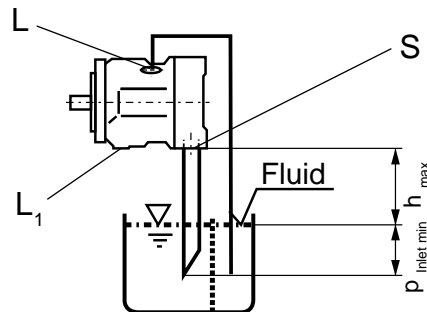

Fig. 4
b) If the minimum fluid level is equal to or below the top of the pump pipe ports "L", "L1" and possibly "S" according to Fig. 4. Conditions according to 1.2.1.
a) For mounting above tank see Fig. 4. Conditions according to 1.2.1.